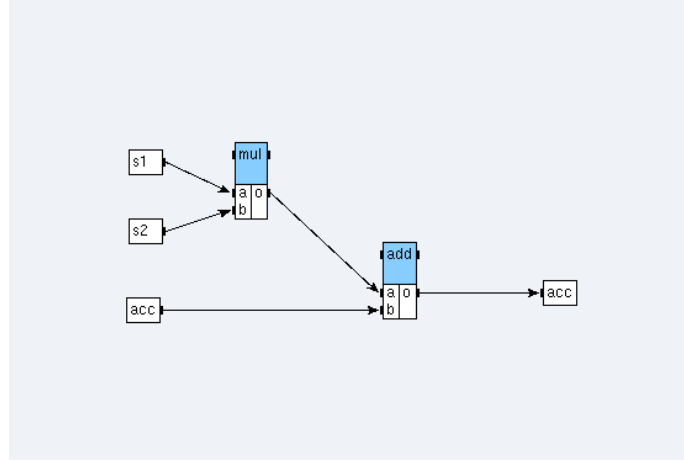

Figure 4.6: Algorithm of the function `dpacc`
- then create dependences to obtain an algorithm (*cf.* figure 4.6).